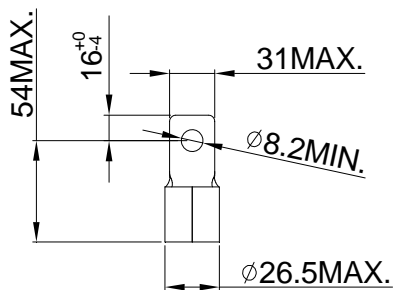

Figure2
3. Figure 1 and Figure 2 show the specification for using ring lug.